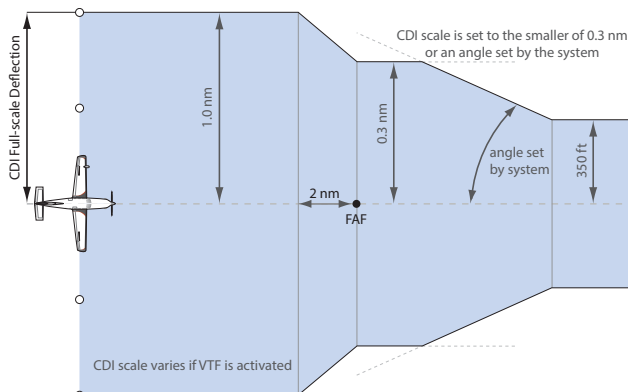
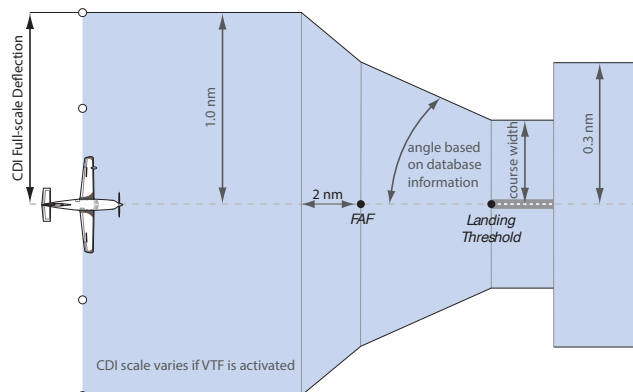

Figure 2-31 Typical LNAV, LNAV+V, and Visual Approach Service Level CDI Scaling
Figure 2-32 Typical LNAV/VNAV, LP, LP+V, and LPV Approach Service Level CDI Scaling
- During **approach**, the CDI scale ramps down even further (see Figure 2-31 and Figure 2-32). This transition normally occurs within 2.0 nm of the final approach fix (FAF). The CDI switches to approach scaling automatically once the approach procedure is activated or if Vectors-To-Final (VTF) are selected.